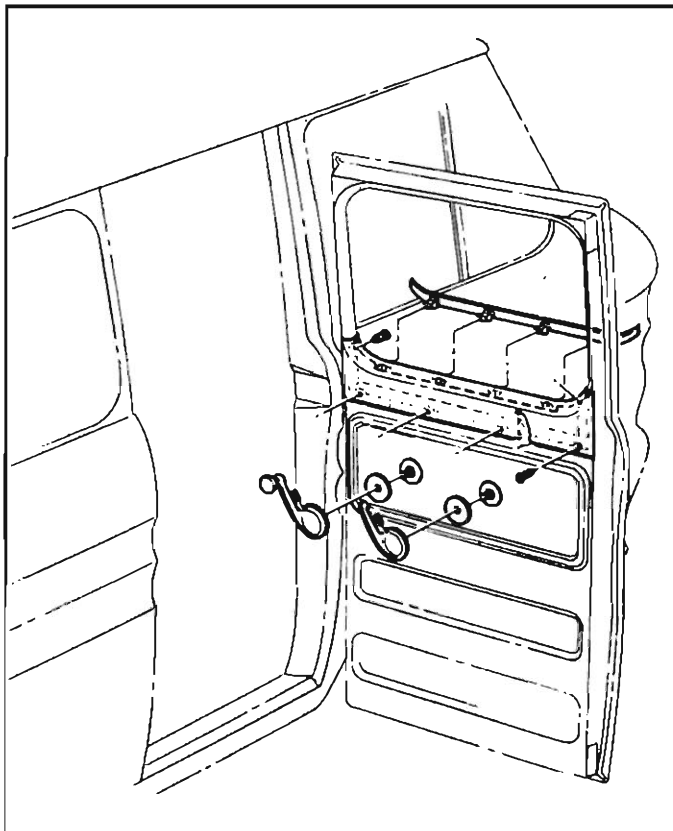

Fig. 80—Trim Panel and Door Handle Assembly
1. If working on intermediate door of 1205 model, rod trunnions may be reached by removing access plate located on inner surface of door. All other models will require removal of the trim panel shown in Figure 80.
2. Remove access panel on 1205 models; trim panel on all others (see fig. 80).